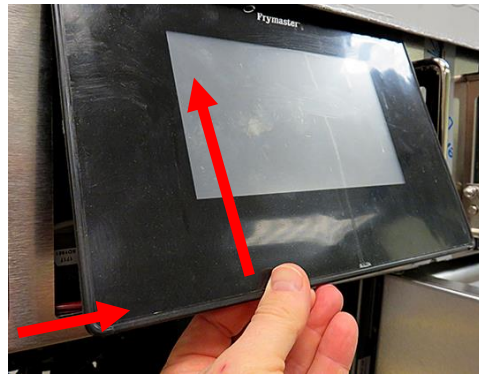

Figure 5
7. Lift the controller out from the bezel (see Figure 5).